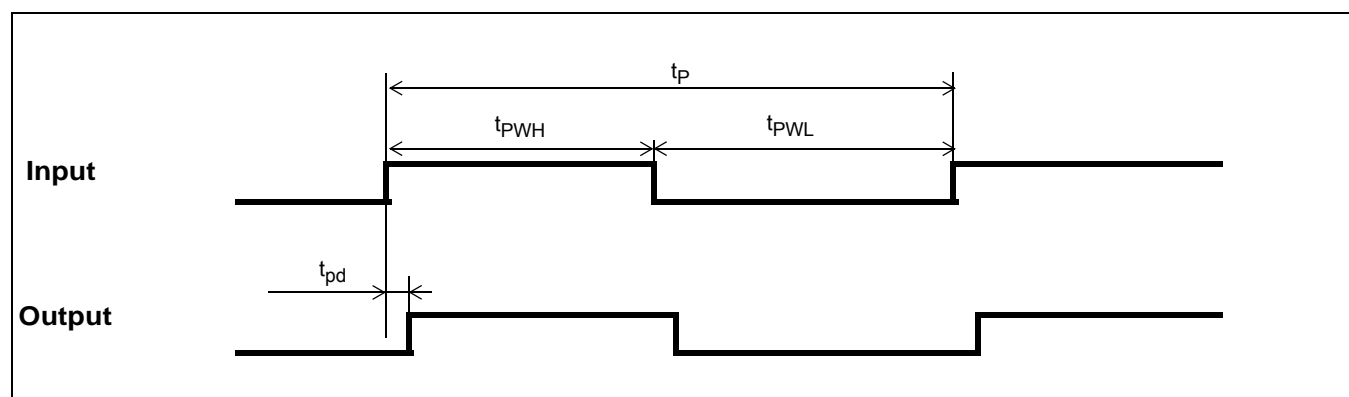

Figure 22 - Input To Output Timing
**AC Electrical Characteristics\* - Inputs and Outputs (see Figure 22) - for 3.3 V supply.**
**AC Electrical Characteristics\* - Inputs and Outputs (see Figure 22) - for 2.5 V supply.**